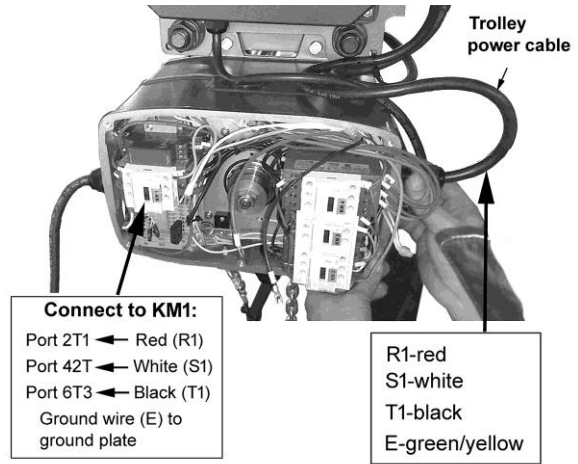

Figure 6-5
- Bring the trolley power cable into the hoist through the cable gland. See Figure 6-5. Connect the four wires from the trolley cable to the **KM1** contactor, as described in Figure 6-5.